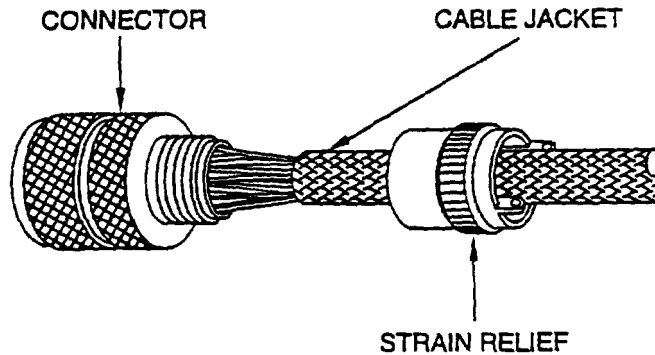

Figure 54. Accessory Removed
(3) 389L: Abbreviated connector part number for which adapter fit (i.e. 3891 fit M38999L connectors, 5015 fit M5015 connectors, etc.). WP 025 00 for details.
f. Remove strain relief from connector and slide back on cable (Figure 54).